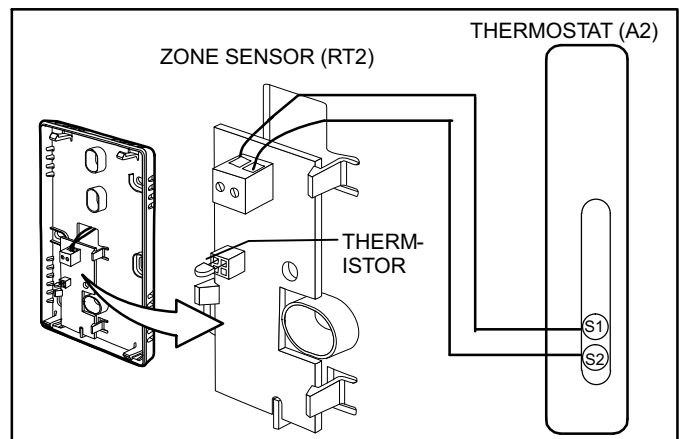

Figure 5. Room Sensor Wiring
Attach the wires from the device sensor terminals to the appropriate remote indoor sensor terminals on the thermostat (see figure 5).
4. Verify remote indoor sensor wiring per figure 5. Check that thermistor is in place.